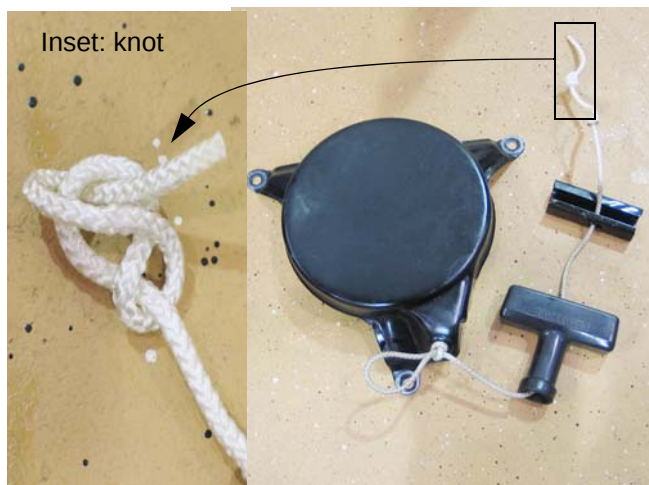

Figure 6.24
- 6.24. Install the handle and handle insert on the loose end of the rope, again using a double half-hitch. See Figure 6.24.